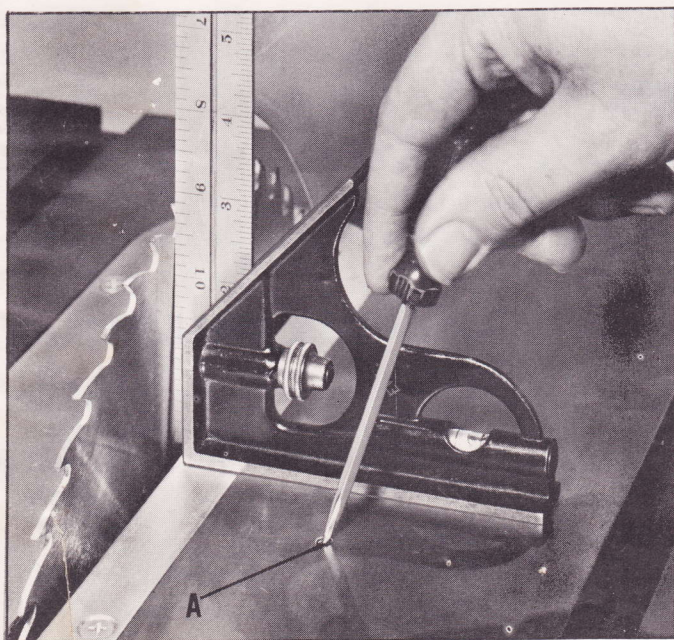

Fig. 7
3. Place a square on the table as shown in Fig. 7, and check to see if the blade is at a perfect 90 degree angle.
4. If the blade is not at 90 degrees, back off set screw (A) Fig. 7, and turn the tilting handwheel until you are certain the blade is at 90 degrees to the table. Then tighten set screw (A) Fig. 7.